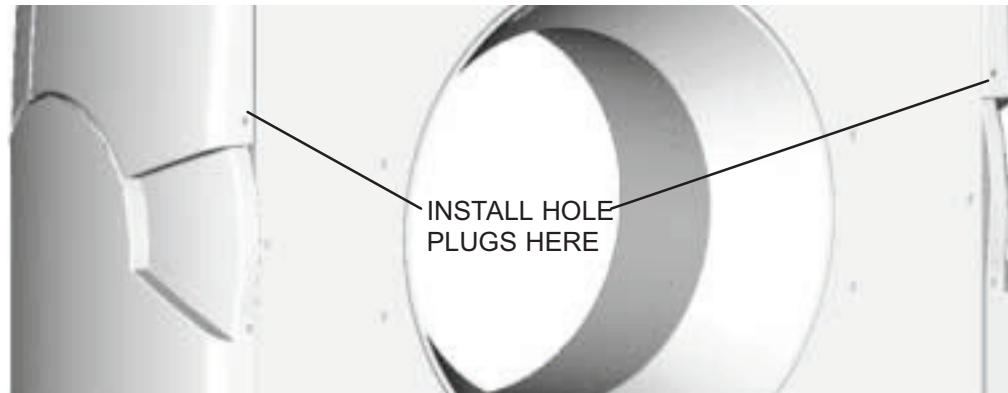

FIGURE 243 REAR HOLE PLUG INSTALLATION
2. Install the Hole Plugs (p/n T39A-1013) at the two locations shown in Figure 243.